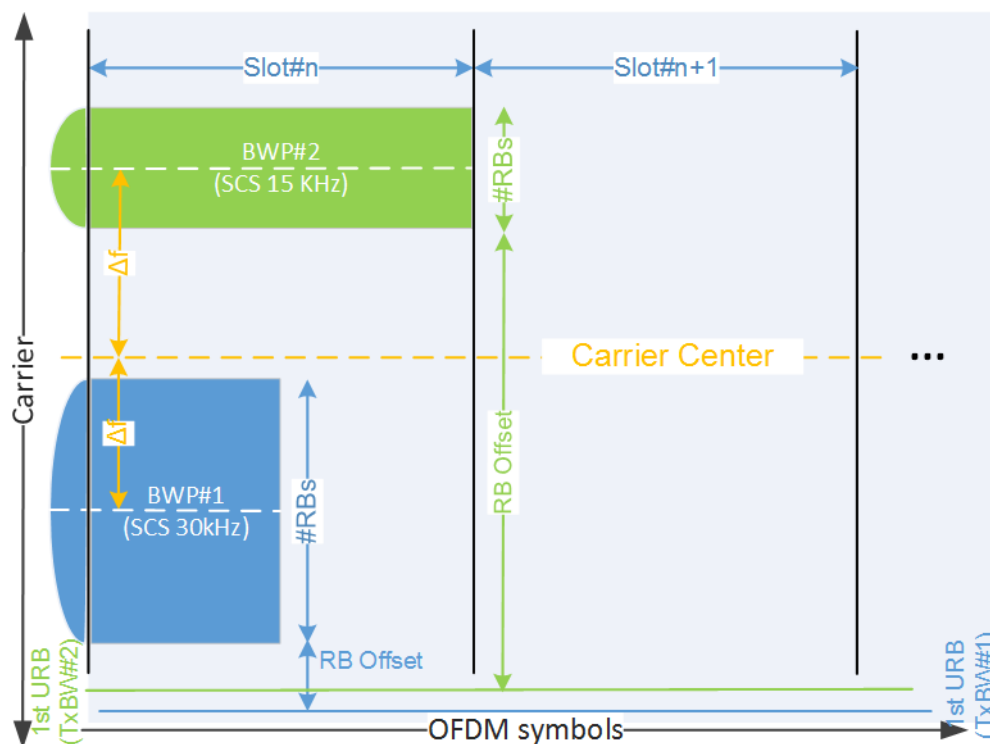

Figure 6-4: Bandwidth parts
- Figure 6-4
See also Figure 6-4.